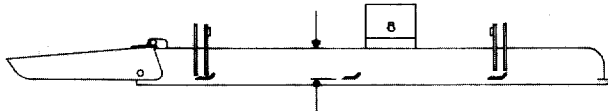

Figure 27
2. Rotate blade until the ends face forward and backward (Fig. 27). Measure from inside of cutting unit to cutting edge at front of blade (Fig. 27), and remember this dimension.